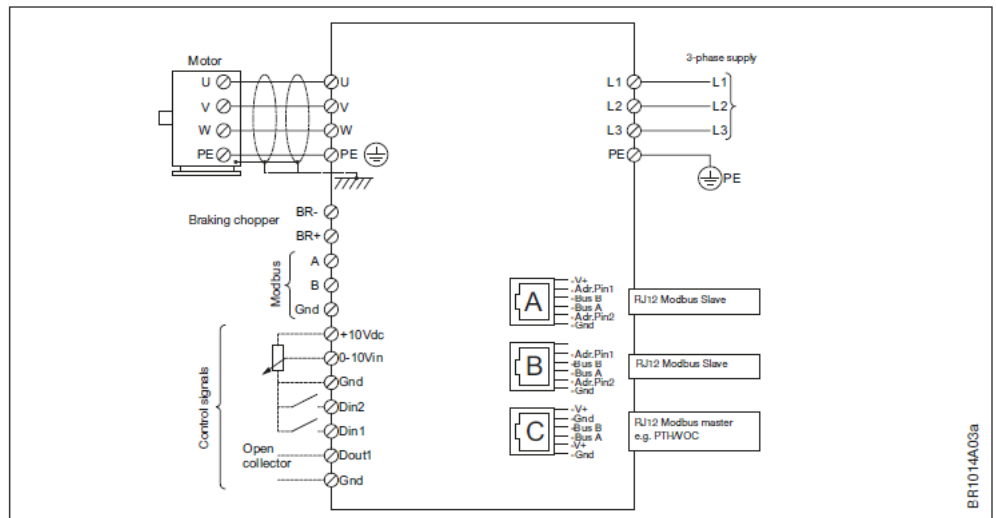

Fig. 3-10
- "C": Modbus connection, master, external equipment, e.g. PTH/VOC. See fig. 3-10.